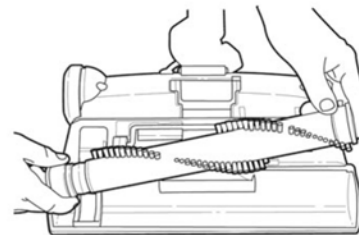

Figure 7.
2. Insert a string around the brush roller close to the poly-v belt. Pull both ends of the string upwards so that the brush roller disengages from the base. Similarly, disengage the other end. (as shown in Figure 7)